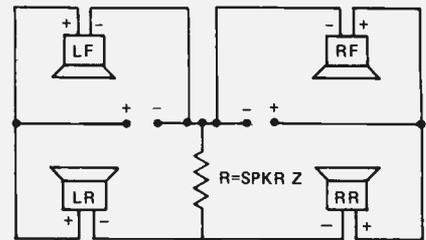

Fig. 3. Four, four, four channels from two!
A left signal will be reproduced by the left front and the difference speaker in phase. However, a right signal will be reproduced by the right speaker and the difference speaker in reverse phase. The solution then is either to use a speaker with two voice coils or two speakers, as in fig. 3. This is the Haffler circuit, with the centre channel removed, and with two rear channel speakers connected in series but in reverse phase to each other, but in phase with respect to their respective channels, and a resistor to ground from the junction point. This is intended to provide a ground reference, and with the blending described earlier, remove front channel signals from the rear, plus minimize out-of-phase signals from appearing in the opposite rear channels. If this seems a little obscure, it should be mentioned that at the time Dyna was also promoting a system of 4-channel encoding to be used with this system.
*Looking first at your power supply problem, I can't for the life of me figure out why you would even consider using either one. The WW circuit (Fig. 2) couldn't possibly deliver any kind of current. Or were you expecting the 555 to operate as a current source. As for the ETI circuit (Fig. 3) this is simply an inverter with a doubler output and a positive ground. What you require is a balanced supply, and on the same page (page 50) of the same ETI Circuits #1, and immediately following the circuit you used, you will find a circuit for a DC to AC inverter. It uses an astable multivibrator driving a power amplifier driving a step-up transformer with a centre-tapped secondary. Follow this with a rectifier and filter and you have a balanced DC supply.*